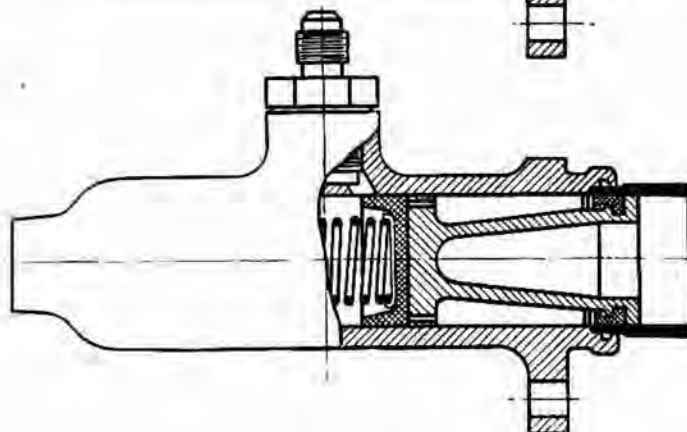

Fig. 10
- (3) Dip piston and secondary cup assembly in fluid, after which the assembly can be inserted into the cylinder through the sleeve, taking care to push the piston well down into the cylinder bore. (Fig. 10.)